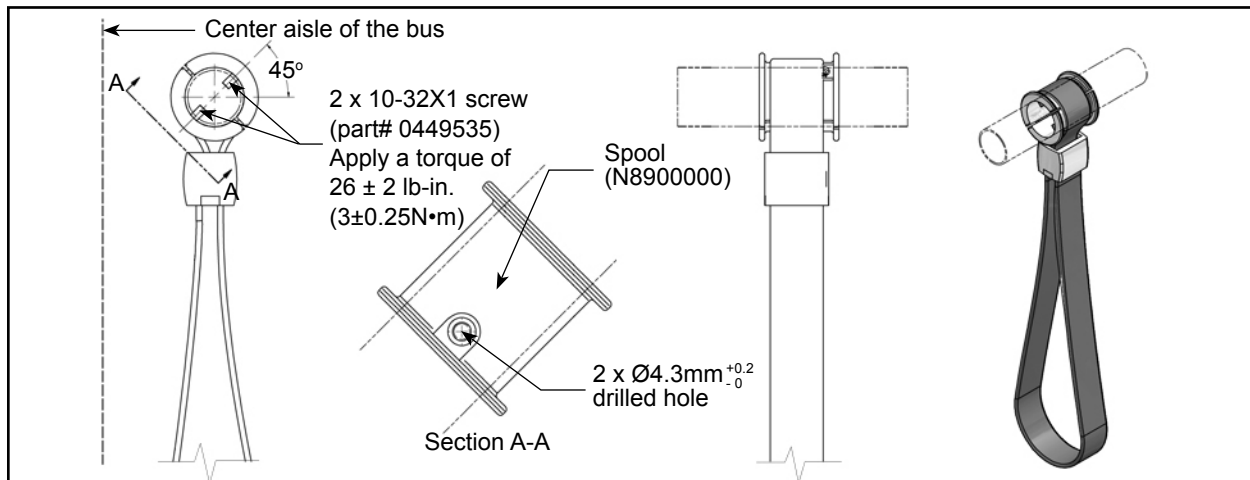

Figure 3 - New Spool Installation
- 1.7. Mark and drill the new spool mounting holes according to Figure 3.
The 45 deg mounting angle, illustrated in Figure 3, is crucial to the proper installation of the grabhandle.
- 1.8. Install the new spools and secure them with the provided screws. Apply torque according to Figure 3.
Accurate torquing of the spool screws, as per Figure 3, is crucial to the proper installation of the grabhandle.